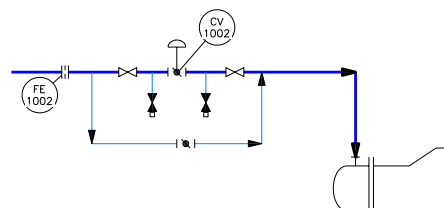

Figure 2-65 Location of the orifice on the steam inlet line of the heat exchanger
4. Similarly, place another restriction orifice on the steam inlet pipe of the heat exchanger, refer to Figure 2-65. Next, enter the following values in the **Assign Tag** dialog box: